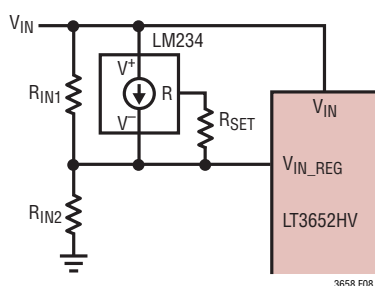

Figure 8. MPPT Temperature Compensation Network
In the circuit shown in figure 8,
As the temperature coefficient for V_{MP} is similar to that of V_{OC} , the specified temperature coefficient for V_{OC} (TC) of $-78\text{mV}/^\circ\text{C}$ and the specified peak power voltage ($V_{MP(25^\circ\text{C})}$) of 17.6V can be inserted into the equations to calculate the appropriate resistor values for the temperature compensation network in Figure 8. With R_{SET} equal to 1000Ω , then: